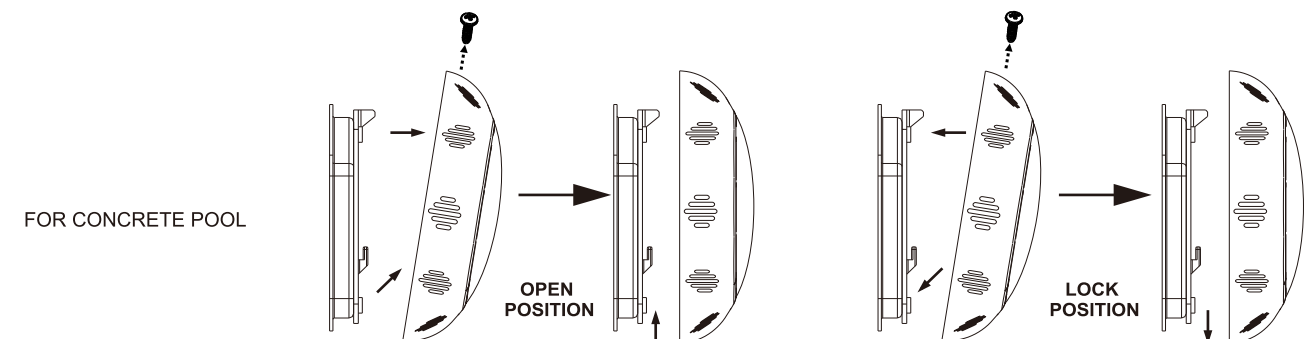
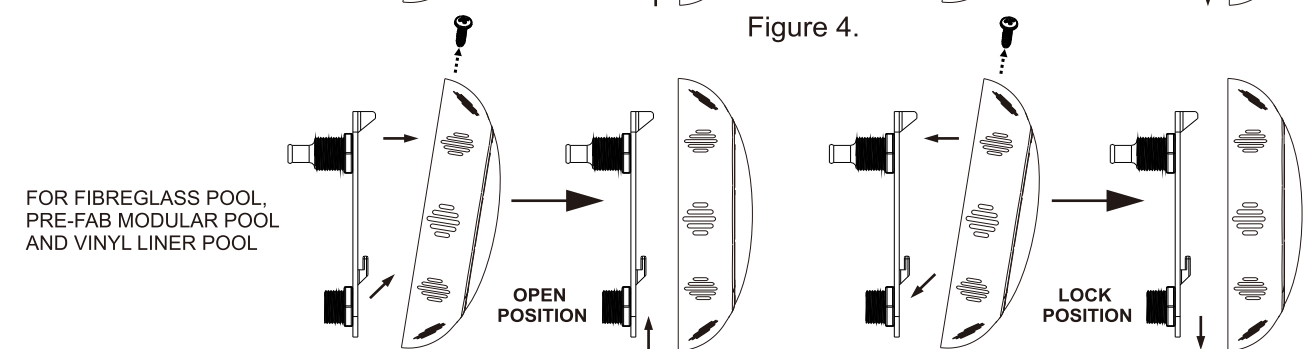

Figure 4.
Figure 5.
- Rotating Locking System ensures light is secured to bracket, see Figure 4.(Figure 5.)